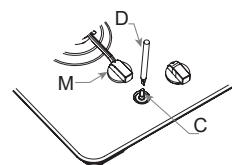

Fig. 4
2. Remove the control knobs "M" (Fig. 4).
3. Insert a small screwdriver "D" (Fig. 4) into the hole at the top of the tap "C" and turn the adjustment screw left or right until the flame of the burner is conveniently regulated to the low position.